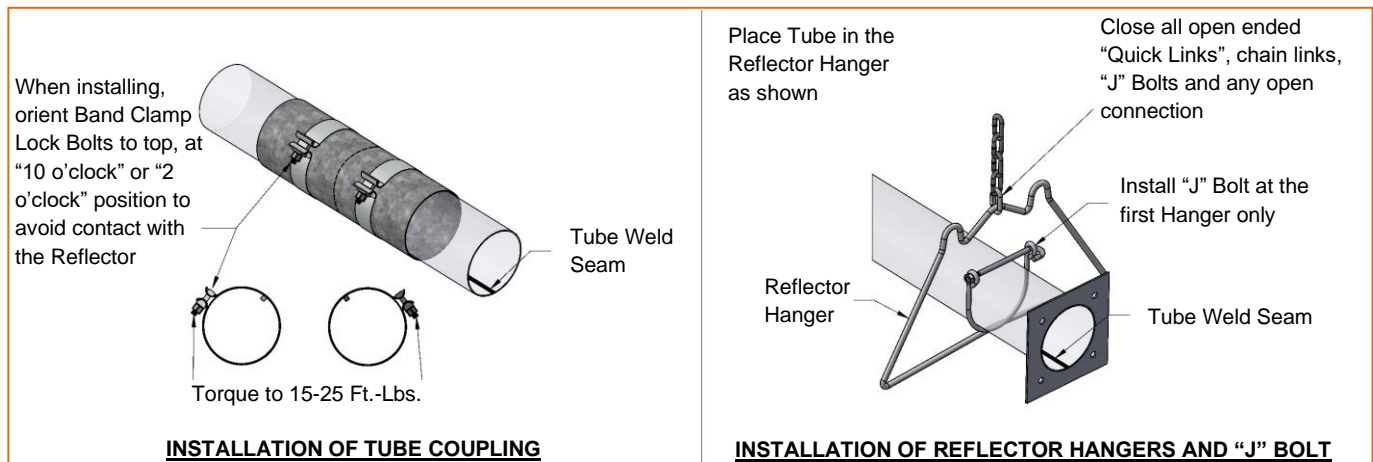

Figure 9: “J” Bolt and Coupling Installations
- Tighten the cradle loops of the first hanger with the “J” Bolt found in the burner box, to snugly hold the combustion tube from rotating (see Figure 9).
Note: In order to obtain smoothly sealed coupling liners, tighten each of the coupling bands progressively and alternately. Tightening one band completely before the other may result in an undesirable wrinkle in the liner (refer to Figure 9). **Be sure not to over torque the coupling (Torque coupling to 15-25 lbf-ft).**